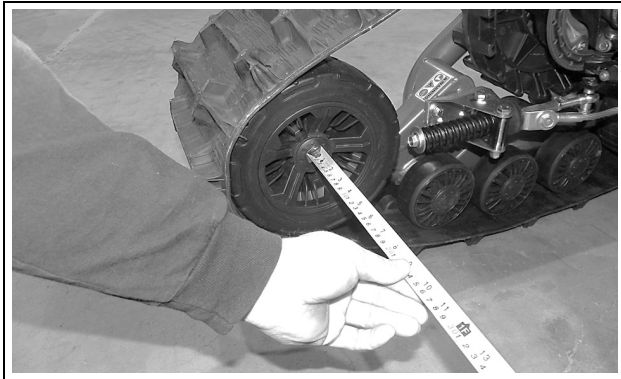

Figure 22
**Measure A:** Measure the distance between the front inside Ø241 mm tires of the front Track Systems. See Figures 22, 23 and 24.